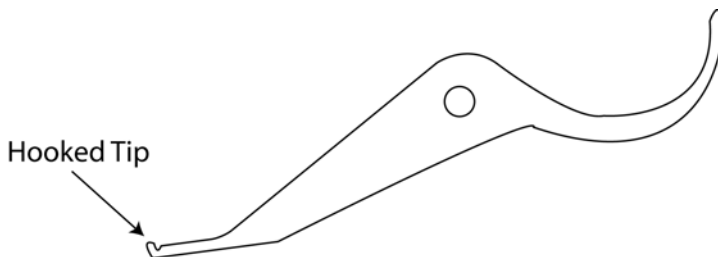

Figure 2: Extraction Tool
2. The extraction tool has a small hook at one end. This is the end that is to be inserted into the extraction slots of the chip socket (see Figure 2).